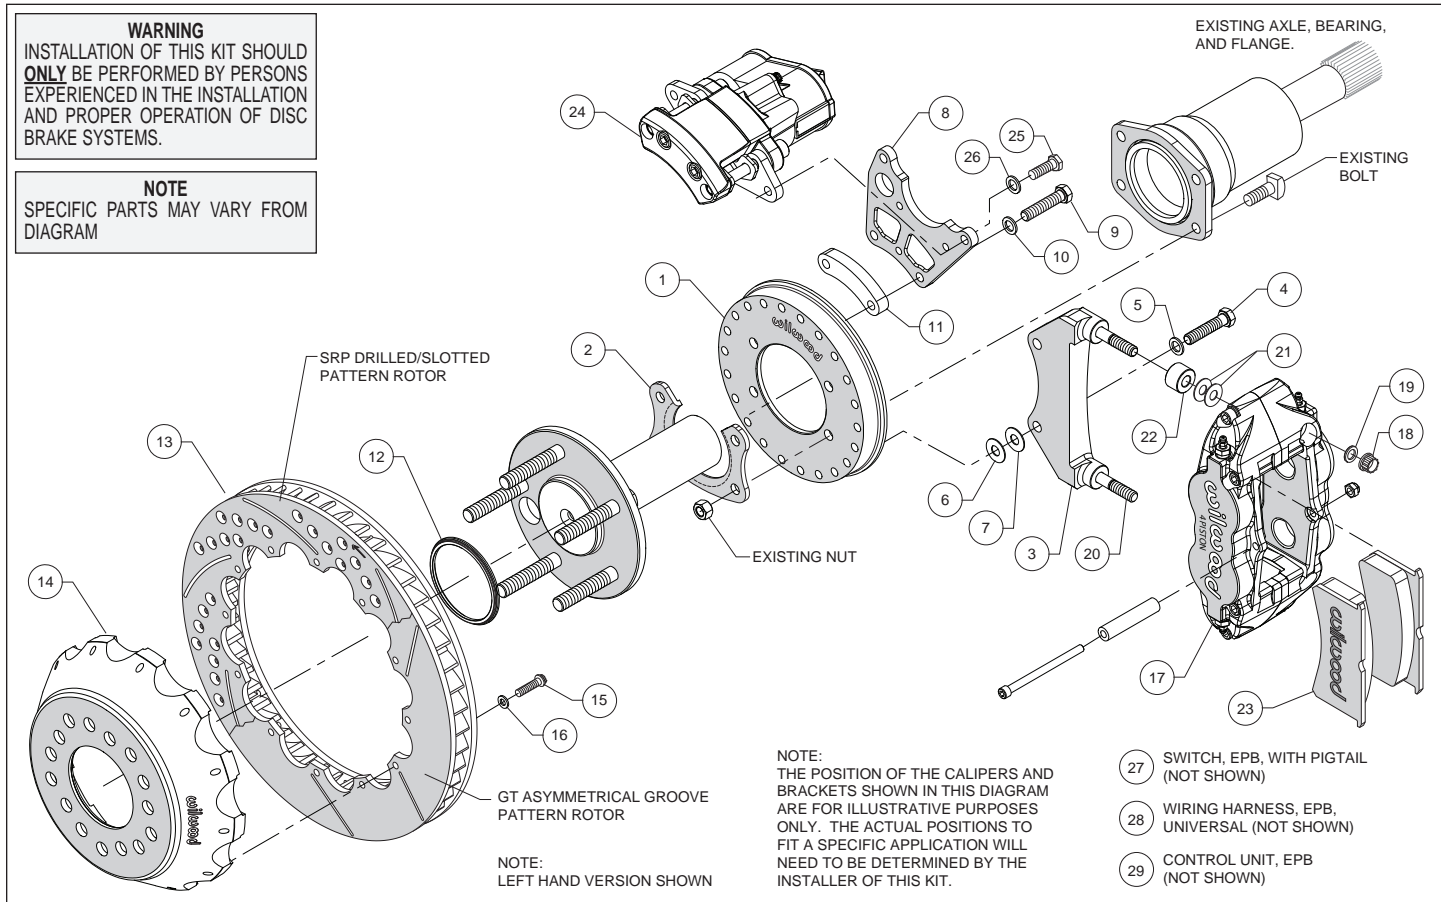
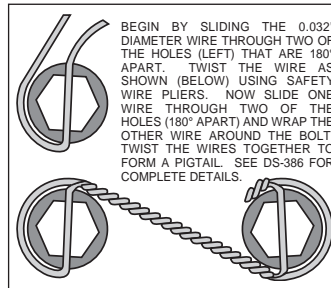

Figure 1. Typical Installation Configuration
Figure 5. Safety Wire Diagram
(numbers in parenthesis refer to the parts list, and Figure 1 on the preceding pages):
- Orient the backing plate (1) as shown in Figure 1 and Photo 1, and slide it onto the axle housing flange. Ensure the backing plate fits flush against the axle housing flange. Reinstall the axle into the axle housing.
- Install the bearing retainer (2) with the opening pointing upward and the lip facing inward (toward the bearing), as shown in Figures 1 and 4, and Photo 2. Secure retainer and backing plate to the axle housing flange using the Original Equipment Manufacturer (OEM) bolts and nuts, Figure 1 and Photo 3. Apply red *Loctite*® 271 to the OEM bolt threads and torque to OEM specifications.
- Start by determining the best location for the service caliper (17). This caliper is usually mounted in the 3:00 or 9:00 o'clock position, but may be rotated up or down approximately 45 degrees and still allow for proper bleeding, Photo 4. Orient the service caliper bracket (3) as shown in Figure 1 and Photo 5, and install to the backing plate (1) in the desired location using bolts (4) and washers (5). Temporarily tighten bolts. Next, mount the service caliper onto the bracket. Lubricate the caliper mounting studs (20) with lightweight oil. Mount the service caliper using lock nuts (18) and washers (19), Figure 1. Temporarily tighten the lock nuts. Check that the caliper (including inlet fitting and hose) has sufficient clearance to all surrounding components through the full suspension travel. Relocate the caliper/bracket on the backing plate as needed to ensure proper clearance is achieved.
- Determine the best location for the EPB caliper (24). **NOTE:** *The EPB caliper motor extends farther inboard than the service caliper and therefore needs additional consideration when determining a mounting location with sufficient clearance.* In the example application shown in Photo 6, the EPB caliper has sufficient inboard clearance to the leaf spring. However, if the EPB caliper were mounted closer to the 12:00 o'clock position, the inner body of the vehicle would hit the caliper during full compression of the suspension.
- Orient the EPB caliper bracket (8) as shown in Figure 1 and Photo 7, and install to the backing plate (1) in the desired location using bolts (9), washers (10), and spacer (11). Temporarily tighten bolts. **NOTE:** The EPB bracket is reversible. In one direction the bracket will position the EPB caliper closer to the service caliper, and vice versa if reversing the bracket. Next, mount the EPB caliper (24) to the bracket using bolts (25) and washers (26). Temporarily tighten bolts. **NOTE:** EPB calipers are Left and Right handed, however they can be used on either side of the vehicle to best suit your specific application. Check that the EPB caliper (including wiring harness connector) has sufficient clearance to all surrounding components through the full suspension travel. Relocate the EPB caliper/bracket on the backing plate as needed to ensure proper clearance is achieved.
- Once the caliper positions have been determined, remove both the service (17) and EPB (24) calipers, leaving both brackets in place on the backing plate. For the EPB bracket, remove the bolts one at a time, apply red Loctite® 271 to the threads, and torque to 35 ft-lb. The service caliper bracket will be final installed after shimming is determined.
- Orient the rotor (13) and the hat (14) as shown in Figure 1 and Photo 8. Attach rotor to hat using bolts (15) and washers (16). Using an alternating sequence, apply red Loctite® 271 to the threads, and torque to 155 **in-lbs**. For an added measure of security, the bolts may be safety wired using standard 0.032 inch diameter stainless steel safety wire as shown in Figure 5. Please refer to Wilwood's data sheet DS-386 (available at www.wilwood.com/Pdf/DataSheets/ds386.pdf) for complete safety wire installation instructions.
- Initially place two .035" thick shims (21) and one spacer (22) on each stud of the service caliper bracket (3) as shown in Figure 1 and Photo 10. Mount the caliper onto the bracket using lock nuts (18) and washers (19), Figure 1. Temporarily tighten the lock nuts and view the rotor through the top opening of the caliper. The rotor should be centered in the caliper, Photo 11. If not, adjust by adding or subtracting shims (6 and/or 7) between the service caliper bracket (3) and the backing plate (1). Always use the same amount of shims on each of the two mounting bolts. Once the caliper alignment is correct, remove the bracket mounting bolts (4) one at a time, apply red Loctite® 271 to the threads, and torque bolts to 35 ft-lb.
- Mount the EPB caliper (24) onto the caliper mounting bracket (8) using bolts (25) and washers (26), Figure 1. Apply red *Loctite*® 271 to bolt threads, and torque to 30 ft-lb.
• **NOTE:** The service caliper (17) in this brake kit utilizes a 1/8-27 NPT pipe thread inlet. OEM rubber brake hoses generally cannot be adapted to Wilwood calipers. The preferred method is to use steel adapter fittings at the caliper, either straight, 45 or 90 degree and enough steel braided line to allow for full suspension travel. **Carefully route hoses to prevent contact with moving suspension, brake or wheel components.** **NOTE:** Wilwood hose kits are designed for use in many different vehicle applications and it is the installer's responsibility to properly route and ensure adequate clearance and retention for brake hose components. Wilwood offers universal brake flex line hose kits, domestic (3/8-24 IF) chassis fittings, order: